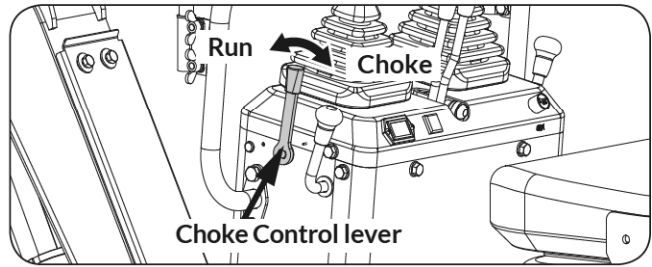

Figure 23
3. To start a cold engine, move the choke control lever to the CHOKe position. To restart a warm engine, leave the choke lever in the RUN position. (See **Figure 23**)